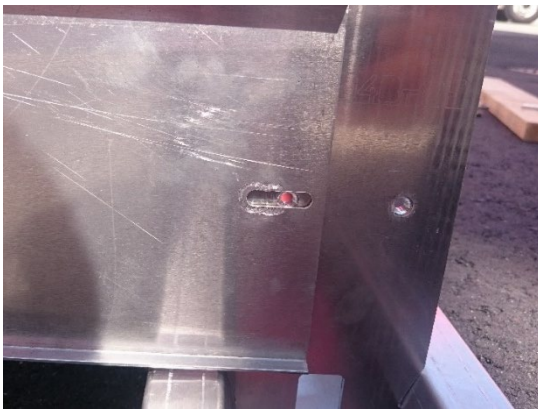

Fig. 26 – Align shield with inner press-fit nut
- 1 Place the Portrait Windshield flange across two rails, aligning the shield with the back edge of a PV module (Figure 26).